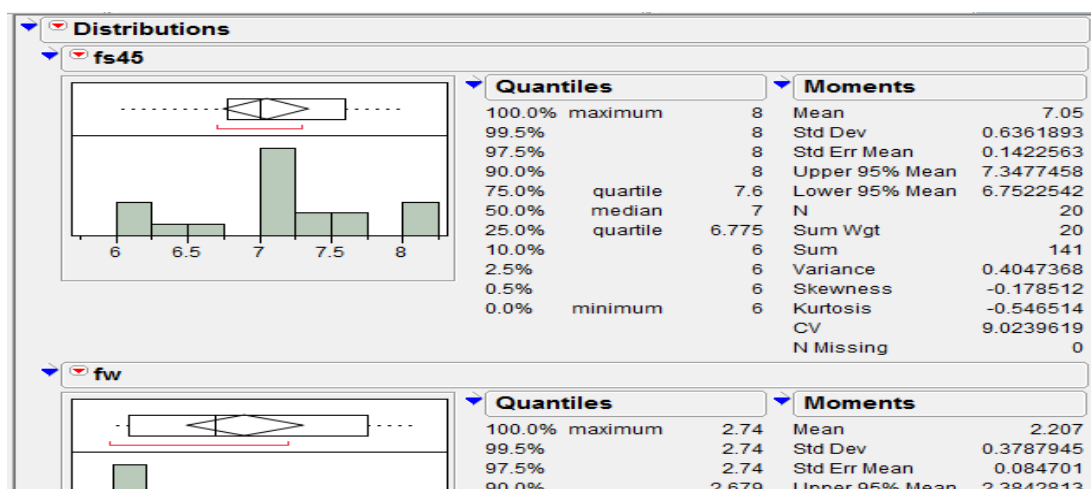

Figure 5.1.1: Descriptive Statistics Output
3. For Question 1, Go to **Analyze** → **Distribution**, (Select all the characters fs45, sw, syp and sl) from **Select Columns** → **Y, Columns** → **OK**. In the Output Window, click on the red triangle (hotspot) on the left of **Distributions** and Select **Stack**. Now click on the red triangle on the left of fs45 and select **Display Options** → **More Moments**. For all the characters repeat it for sw, syp and sl also and one will get the output as in Figure 5.1.1